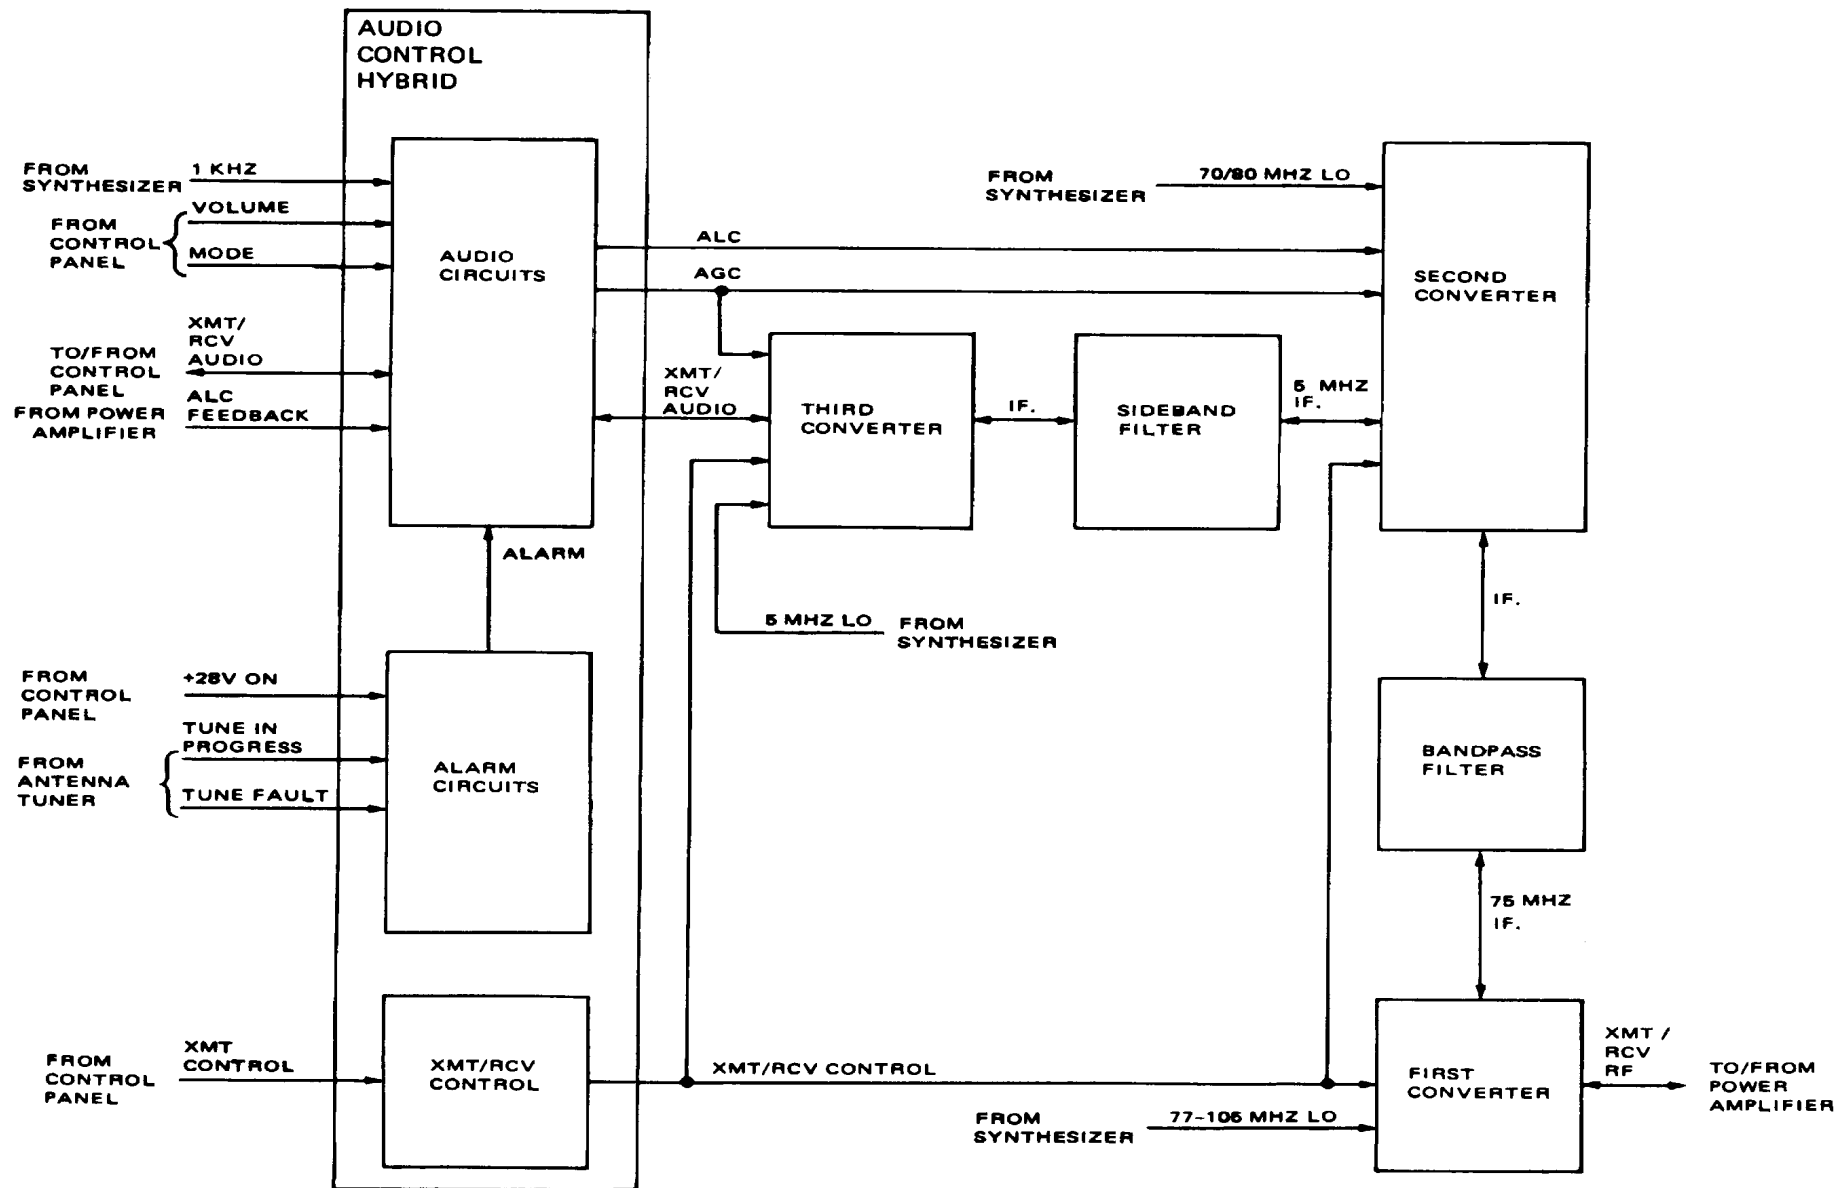

Figure 3-6. Modulator/Demodulator Block Diagram
**3-31. MODULATOR/DEMULATOR (Figure 3-6)**